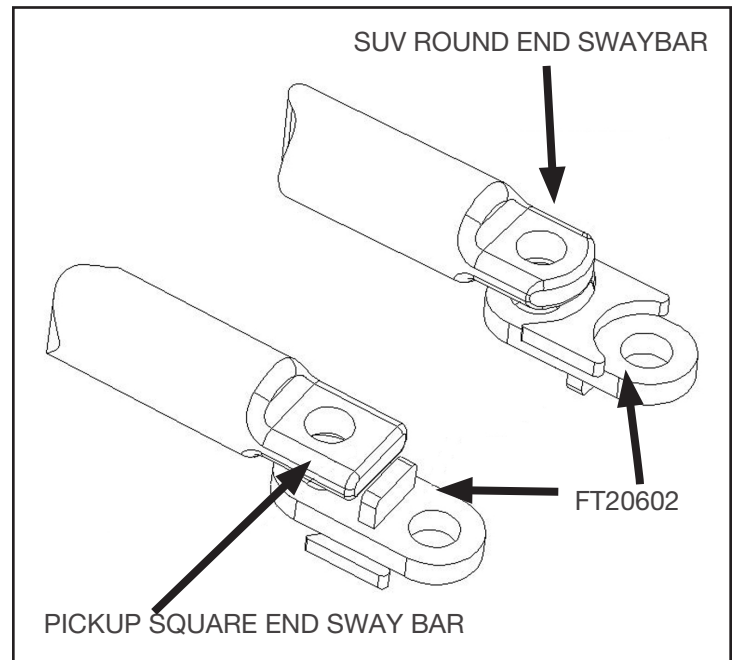

FIGURE 55 - STEP 41
41. Locate FT20602 Sway Bar Mounts and the supplied 18mm x 50mm hardware. Position the Sway Bar Mount so that it is on the bottom of the sway bar with the SHORTER side of the mount against the stop plate end of the mount. Attach with the 18mm hardware and torque to 300 ft-lbs. Locate the factory sway bar end links and attach to the new mount and the lower control arm. **(NOTE - SOME PICK UP TRUCKS MAY BE EQUIPPED WITH SUV STYLE SWAY BAR).** SEE FIGURE 55